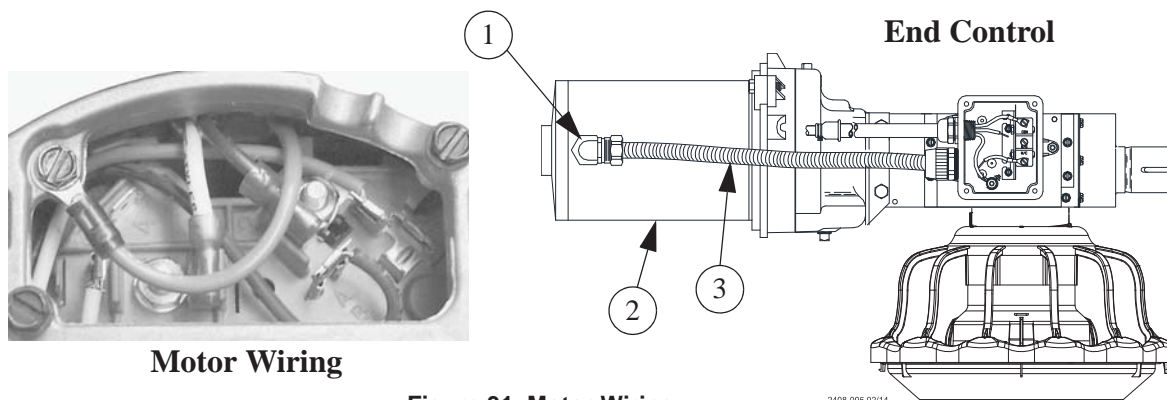

Figure 31. Motor Wiring
8. Install the Metal Water Tight Connector (**Item 1**) in the Feed Line Motor (**Item 2**). Cut the Flex Conduit (**Item 3**) to length. Slide the wires from the end control through the Flex Conduit (**Item 3**). Install the Flex Conduit. Connect the wires to the Feed Line Motor (See **Figure 31**).